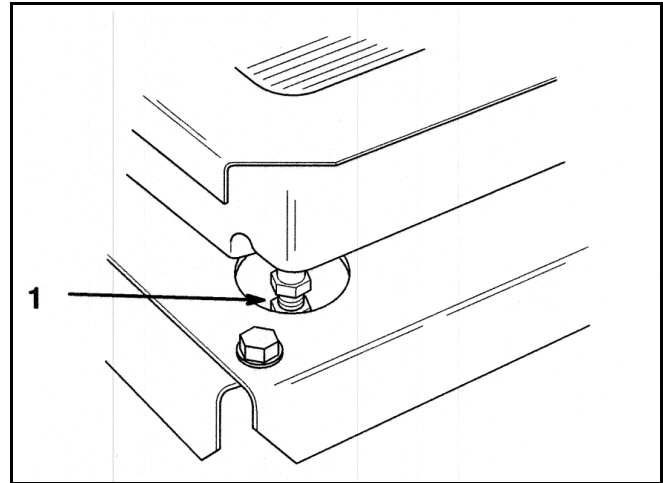

Figure 9
3. With the engine cool, drain the coolant by loosening the drain cock in the right rear corner (Figure 9).